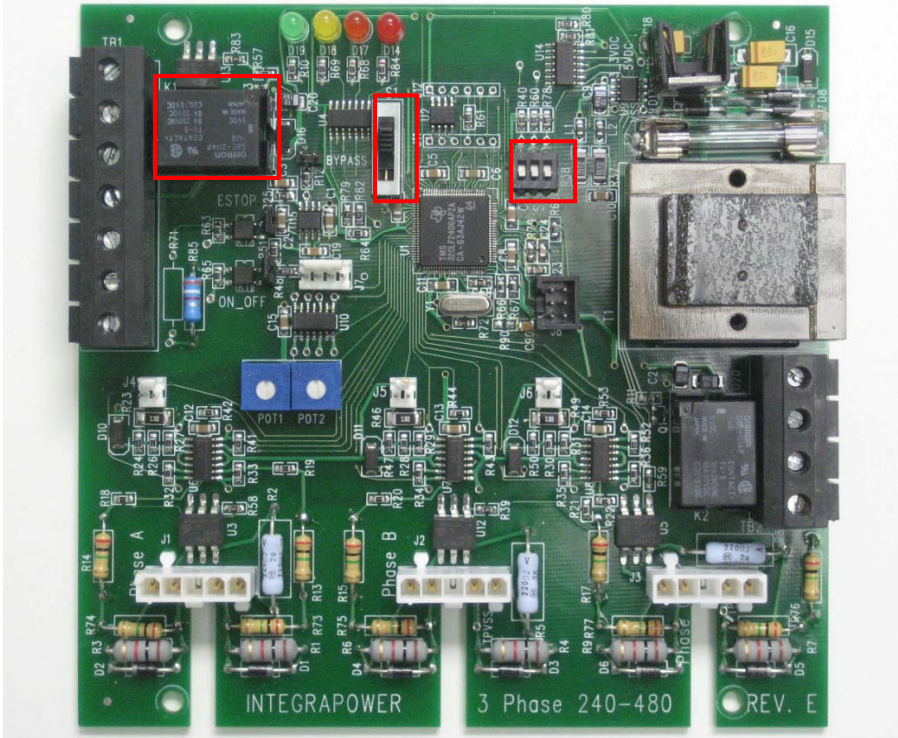

Fig. 3 - Rev. E Control Board Configuration for Y-D Switching
2. On Rev. F control boards, the Y-D jumper needs to be installed (Fig. 3)